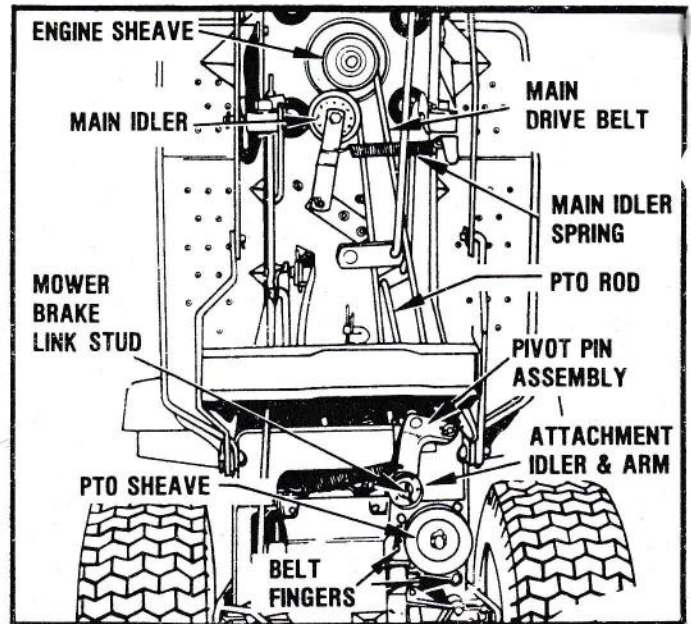

FIGURE 6
4. Disconnect the attachment idler spring from anchor on right side of transaxle. See Figure 6.
5. Remove cotter pin, washer, and PTO rod from attachment idler arm. See Figure 6.
9. Rotate attachment idler until hair pin at top of idler pivot pin assembly can be removed. See Figure 6.
11. Lower attachment idler assembly until traction clutch idler arm is free of pivot pin. See Figure 6 and 7.
12. Disconnect main idler spring from anchor point at left side of frame. See Figure 6.